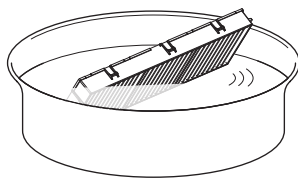

Fig. 1
1) Wash the air filter unit. (Fig. 1)